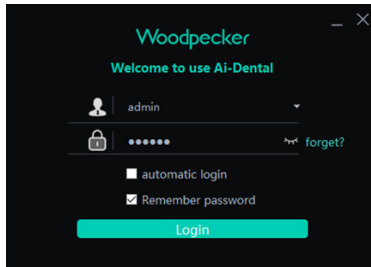

Figure 14
2. Double-click Ai-Dental-Client to start the software and enter the software login interface, as shown in Figure 14.